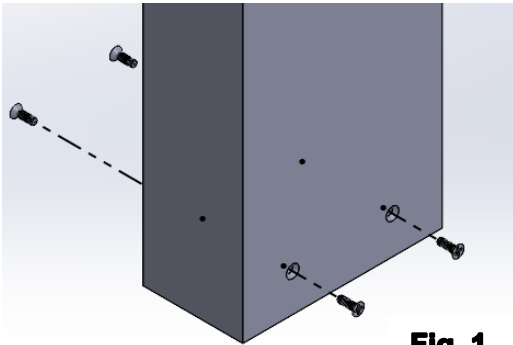

Fig. 1
- Loosen the (4X) screws and remove the mount bracket from the luminaire (**Fig. 1**).